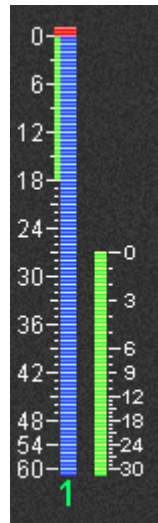

Figure 5-10 Channel meter with dynamics gain reduction meter on right
- **Channel:** the fader, Swap, Main, or any channel, even one not assigned to that Strip. There is an option to display two meters to track different information. When displaying one meter, the dynamics gain reduction is shown to the right of the channel meter (Figure 5-10).